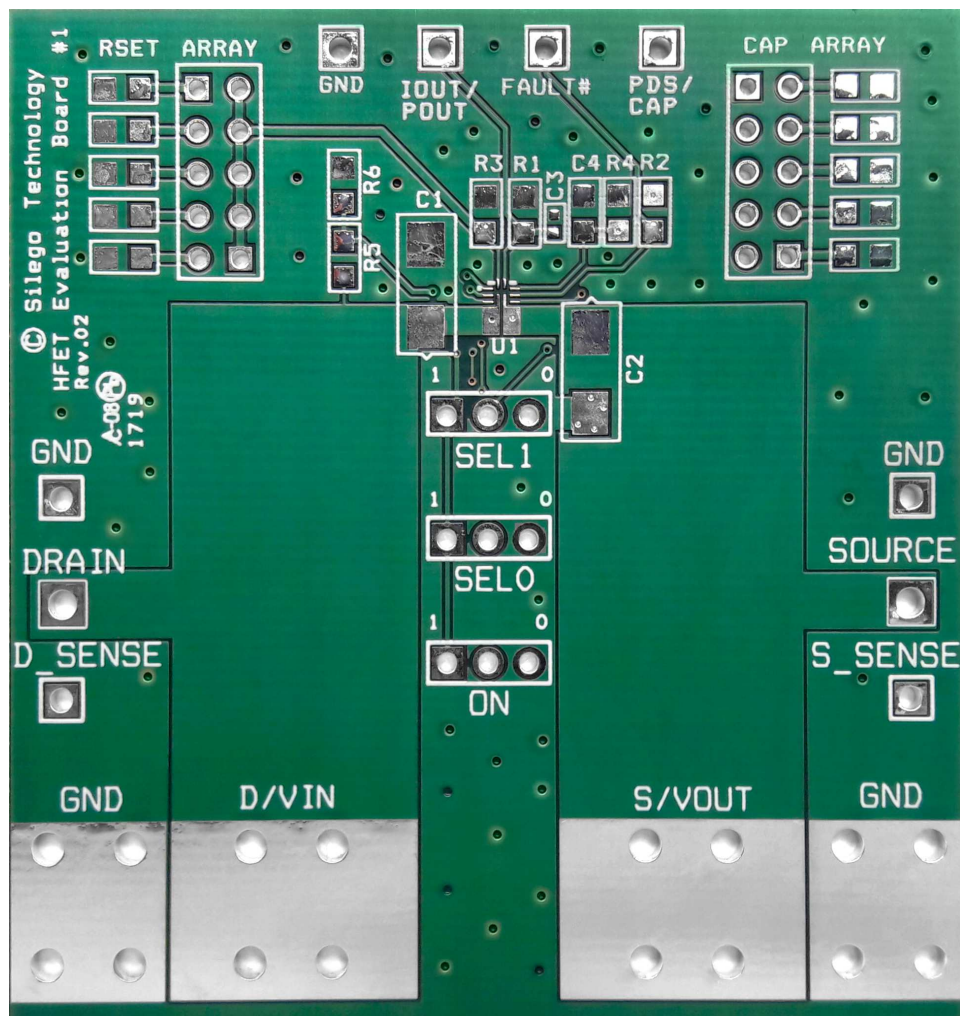

Figure 17. SLG59H1016V Evaluation Board
1. Since the VIN and VOUT pins dissipate most of the heat generated during high-load current operation, it is highly recommended to make power traces as short, direct, and wide as possible. A good practice is to make power traces with absolute minimum widths of 15 mils (0.381 mm) per Ampere. A representative layout, shown in Figure 17, illustrates proper techniques for heat to transfer as efficiently as possible out of the device;
A High Voltage GreenFET Evaluation Board for SLG59H1016V is designed according to the statements above and is illustrated on Figure 17. Please note that evaluation board has D_Sense and S_Sense pads. They cannot carry high currents and dedicated only for RDS_{ON} evaluation.